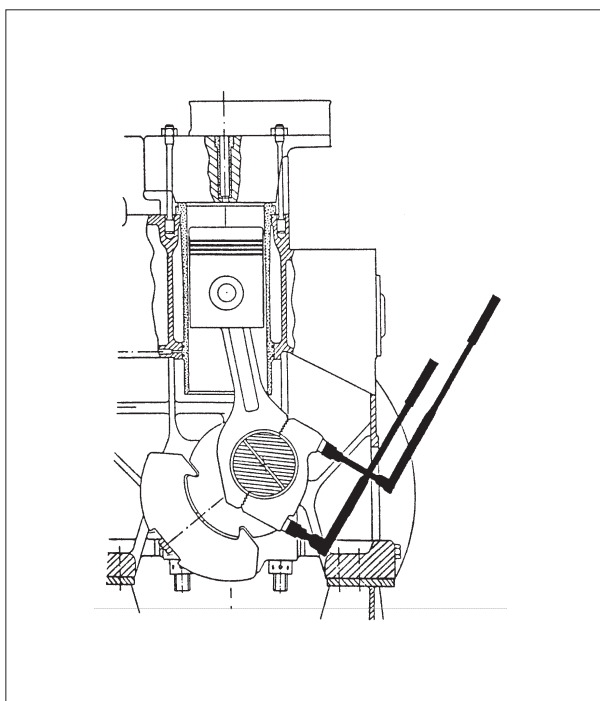

Fig. 1.
1) The crankshaft of the engine is turned into a position allowing the connecting rod screws to be loosened. Having loosened the connecting rod screws, the crankshaft is turned until the piston is in a position thus allowing the connecting rod bearing cap to be dismantled, see fig. 1.